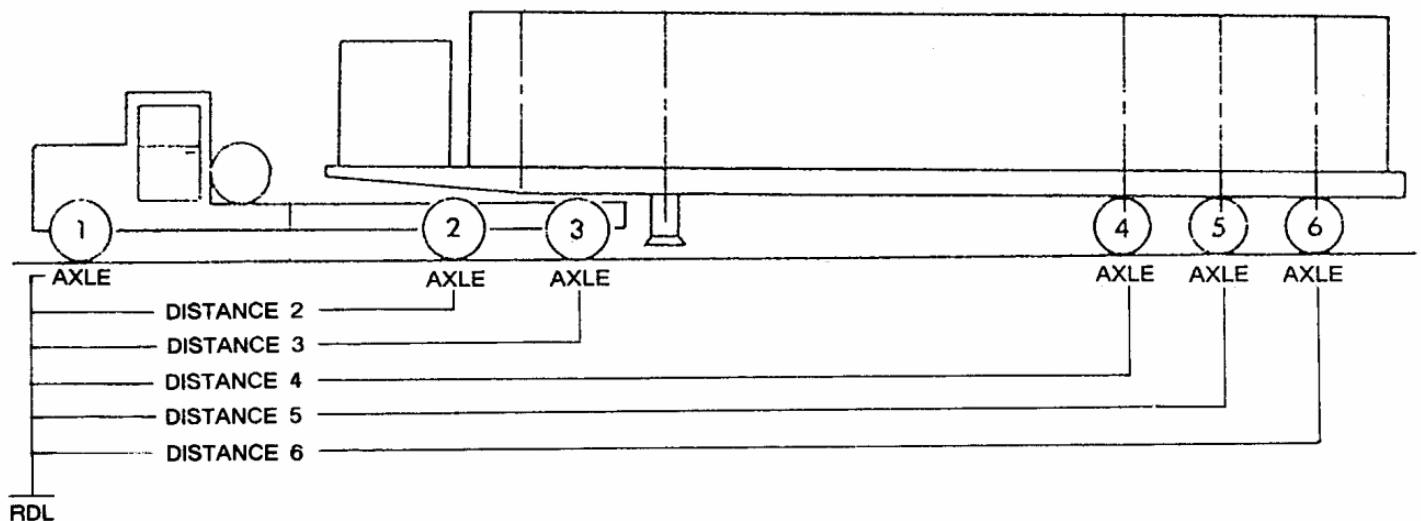

Figure 2-5.—CESE distance measurement locations.
Step 4. Measure distance 3 (D3). D3 is the measurement in inches from the RDL to the center line of the rear axle. This step is performed on vehicles that have three or more axles and on towed vehicles that will remain married (attached) to a vehicle when loaded on the aircraft. The axles on a towed vehicle will become D4, D5, and so forth (fig. 2-5).